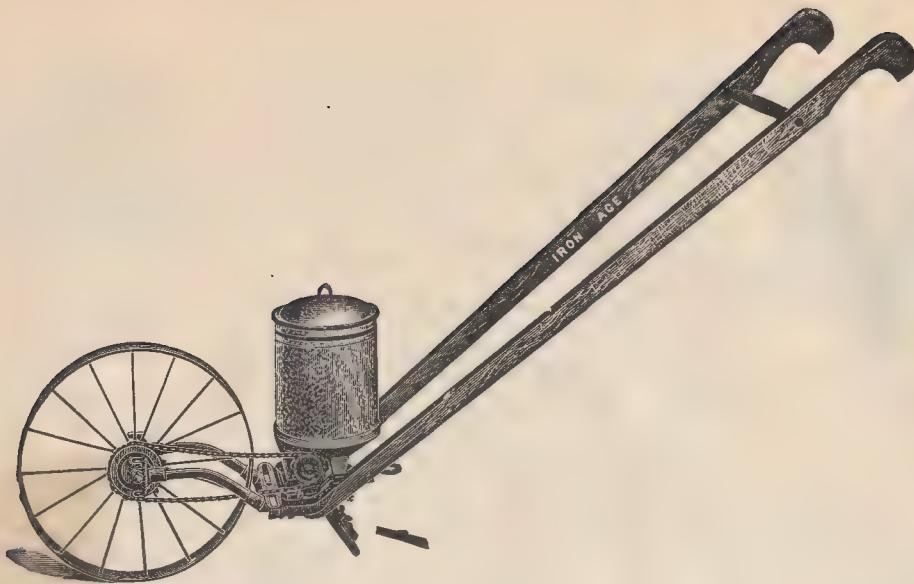

Fig. 189
Our No. 25 Fertilizer Attachment is applied to the frames of our tools in the same place and manner as the Seed Attachments, and when applied to the frame of the Nos. 15, 16, 17, 18, 20 or 21, it becomes identical with the No. 25 "IRON AGE" Single Wheel Fertilizer Distributor as shown in Fig. 189, page 16. For further information read description of the No. 25 "IRON AGE" Single Wheel Fertilizer Distributor.
**No. 25 "IRON AGE" Fertilizer Attachment.** Price with all necessary parts, See Fig. 184, page 14 for cut of this attachment. In designing this attachment we have carried out the same excellent plan of being able to apply it to our various tools as we have our Nos. 6 and 4 Seed Attachments. When this attachment is applied to the frame of our No. 20 Wheel Hoe the combination represents the same tool as our No. 25 "IRON AGE" Fertilizer Distributor shown on opposite page, Fig. 189. Read description of that tool carefully for further information.